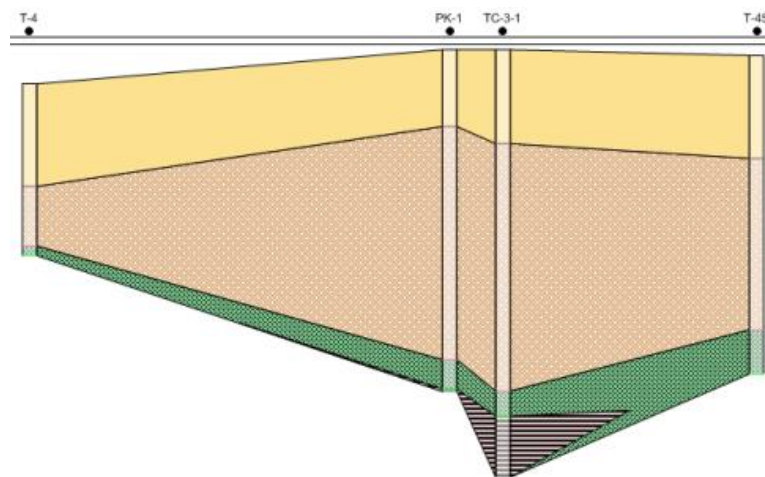

Figure 1.210 – The original cross-section is created with vertical wells
- The cross section is created, showing a lithology log for each well and the connecting layers between wells, fig. 1.210.